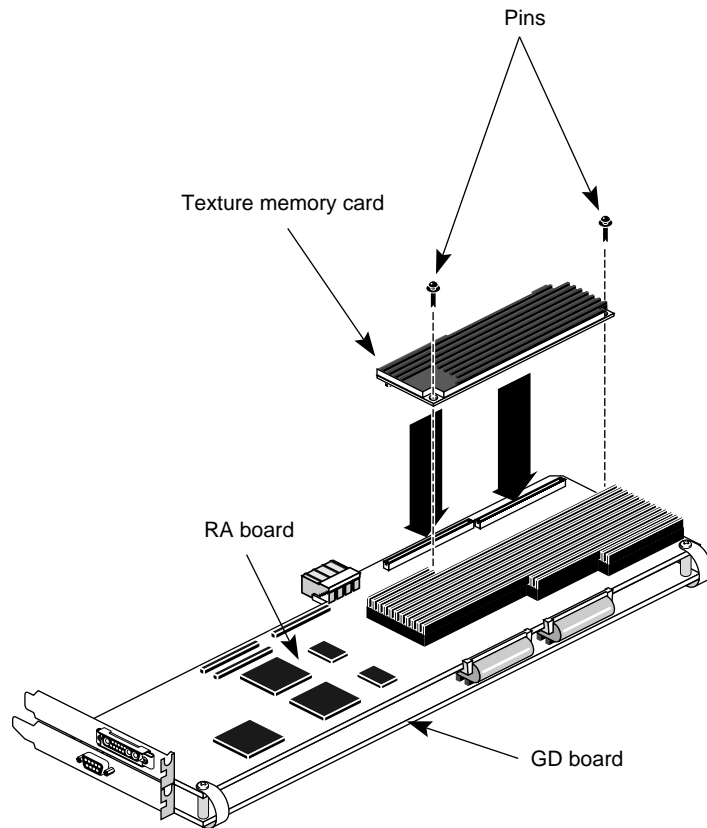

Figure 2-15 TRAM Daughter Board Installation
11. Prepare for installation of the new boards by attaching any TRAM daughter boards to their respective connectors. See Figure 2-15 for an example. See the *Indigo² IMPACT Texture Memory Option Board Installation Guide* (P/N 007-3079-001) if you need detailed information.